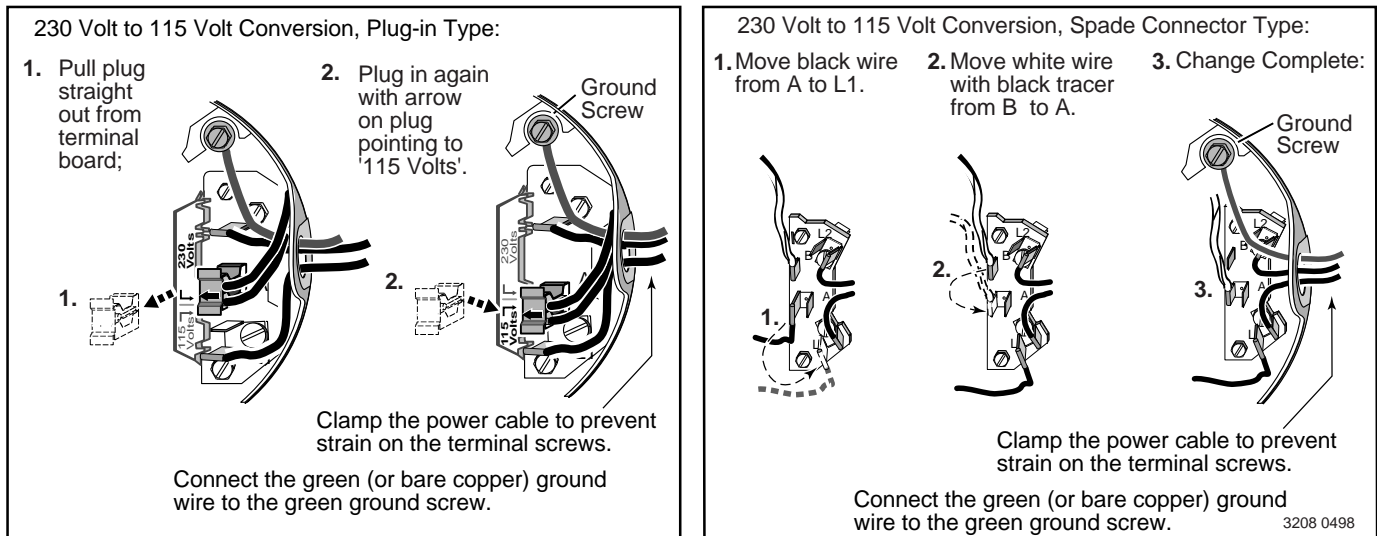

FIGURE 3 – 115/230V Dual Voltage Single Phase Wiring Diagram
7. Connect current carrying conductors to terminals L1 and L2 under motor canopy. When replacing motor, check wiring diagram on motor nameplate against Figure ##. If the motor wiring diagram does not match either diagram in Figure 3, follow the diagram on the motor.
IMPORTANT: 115/230 Volt single phase models are shipped from factory with motor wired for 230 volts. If power supply is 115 volts, remove motor canopy and reconnect motor as shown in Figure 3. Do not try to run motor as received on 115 volt current.